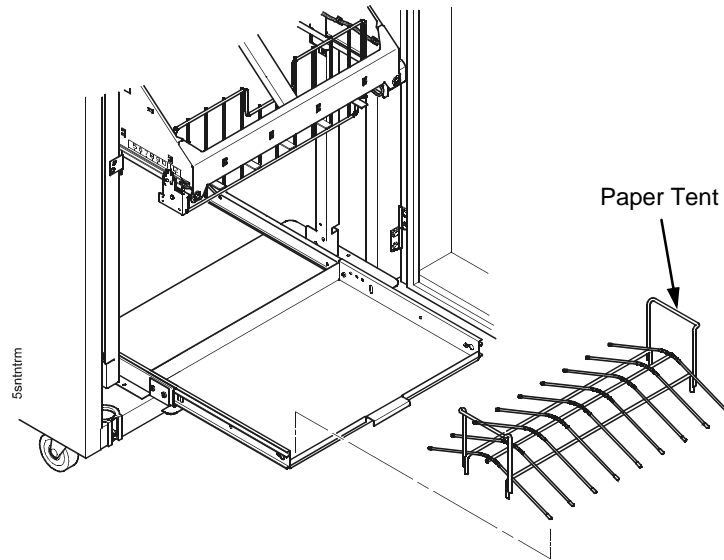

Figure 63. Removing the Paper Tent
4. Remove the paper tent. (Figure 63.)